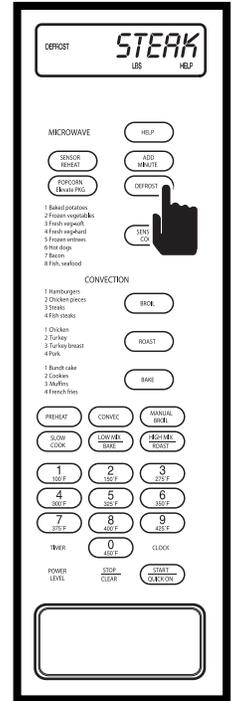

Figure 3-52.
2. Select desired food by pressing the DEFROST key until display shows the food name. For example: The display will flash "STEAK - ENTER - WEIGHT". (See Figure 3-52)